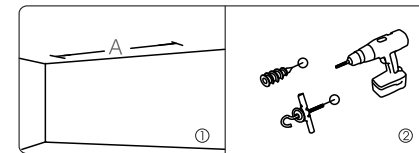

Figure 1
1. Push inside 2  $\varnothing 10$  screws with hook (not supplied), make sure they are fastened ( Figure 1 ).